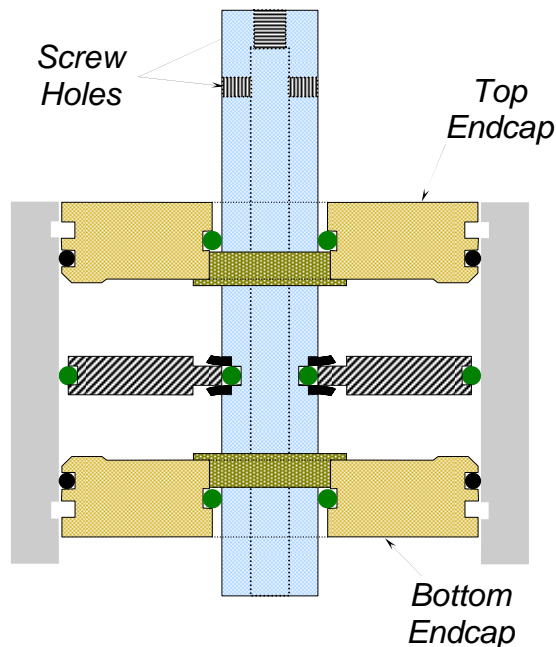

Figure 8
14. Mount the air cylinder in a soft jawed vise with the top pointing up. The Outside surface with the retaining ring groove closest to it is considered the top side. See Figure 8.